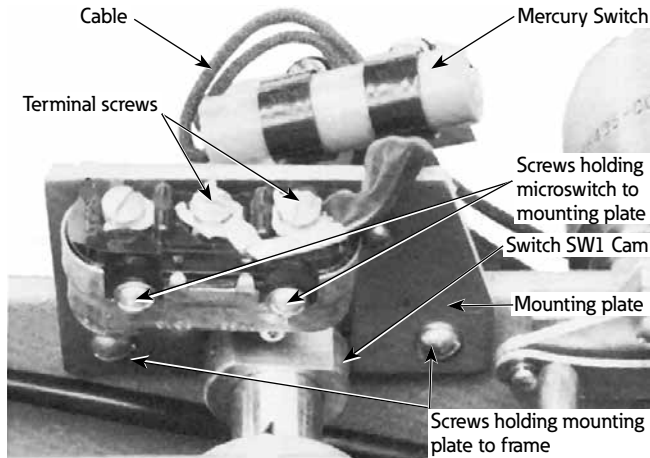

Figure 5. Terminal and mounting screws on switch SW1.
1. Loosen switch SW1 terminal screws and detach cable wire (Figure 5).